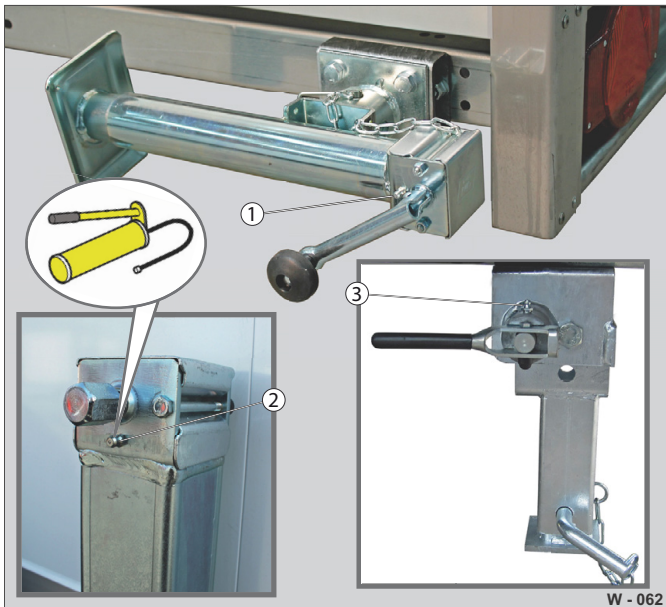

Fig. 58 Supports: Lubrication points
- Lubricate the supports at the grease nipple (Fig. 58 /1,2,3) using a grease gun.